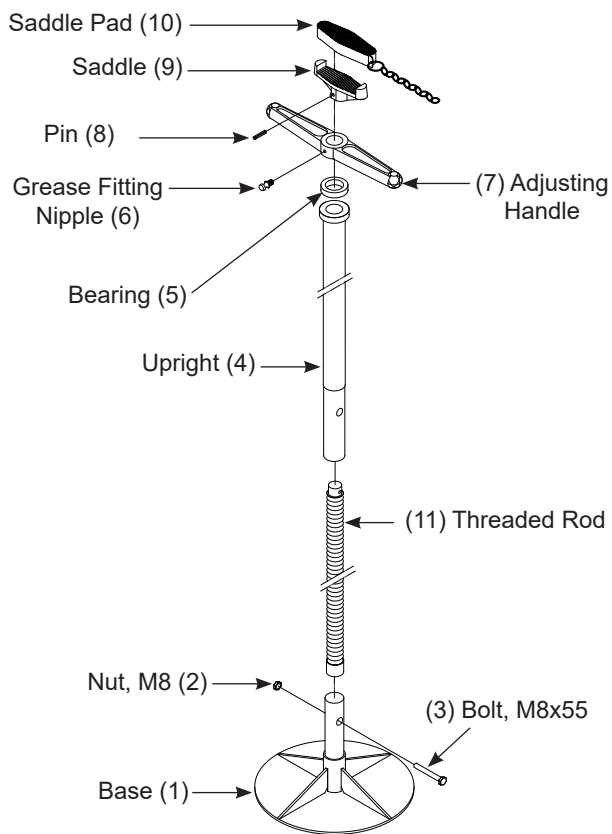

Figure 1 - BH5710 Nomenclature
1. Make sure all parts are present (see Fig. 1 & 2). If any parts is missing or damage, do not attempt to assemble, install or operate the product. Contact Customer service.
2. Begin assembly by inserting smaller end of threaded rod (11) through the bottom of upright (4), allowing small end of threaded rod to project out of the top of upright.
3. Place bearing (5) over the threaded portion, then spin the adjusting handle (7) clockwise onto the threaded rod.
4. Saddle (9) can now be fastened by inserting the pin (8) through saddle & threaded rod (11).
5. a. For Model BH5710 (see Fig. 1):
**Parts List:** *(see Fig. 1 & 2 for reference number.)*